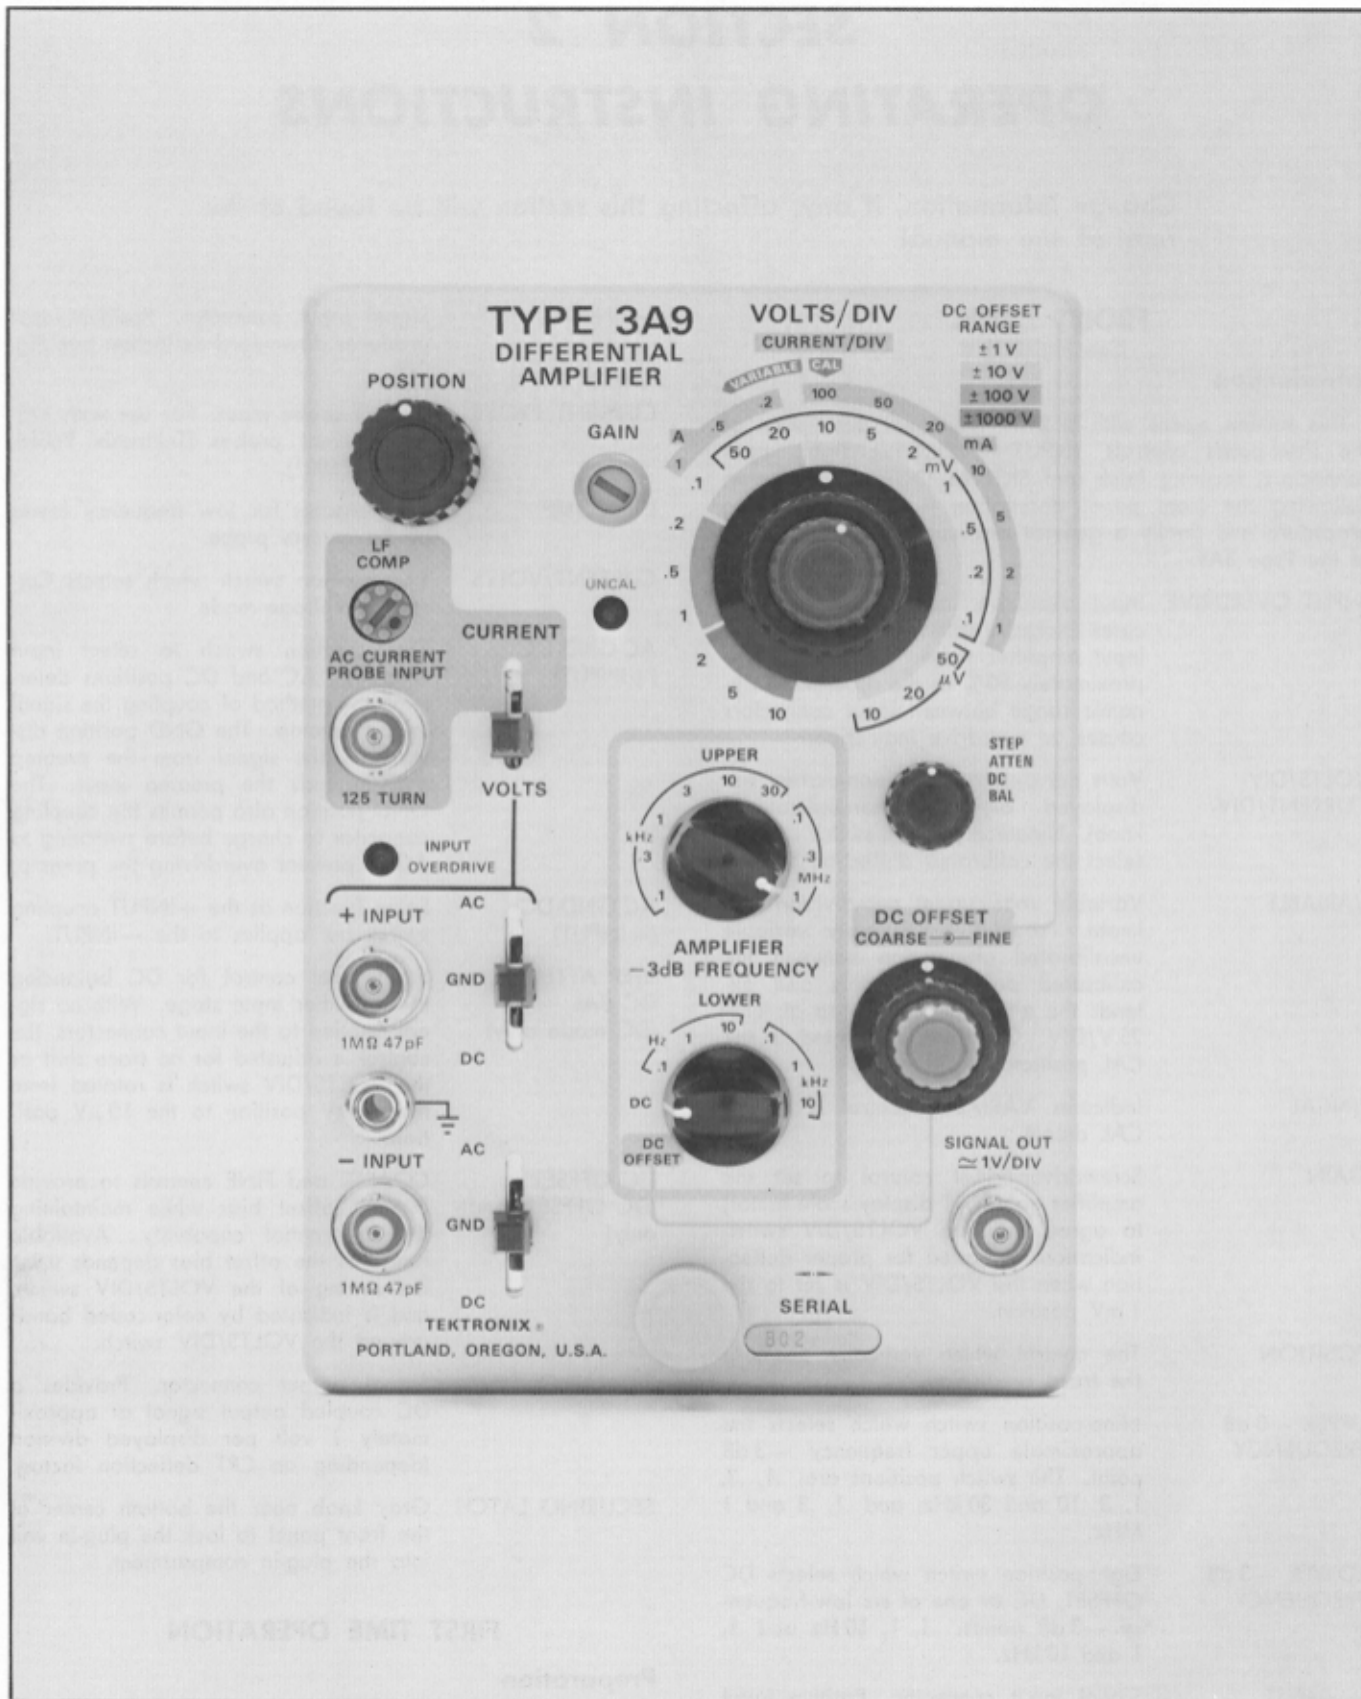

Fig. 2-1. Front-panel controls.
(See Fig. 2-1)
d. With the left-side panel of the oscilloscope removed, adjust the Sig Out DC Level, R467, for zero volts out at the SIGNAL OUT connector (see Fig. 2-1).